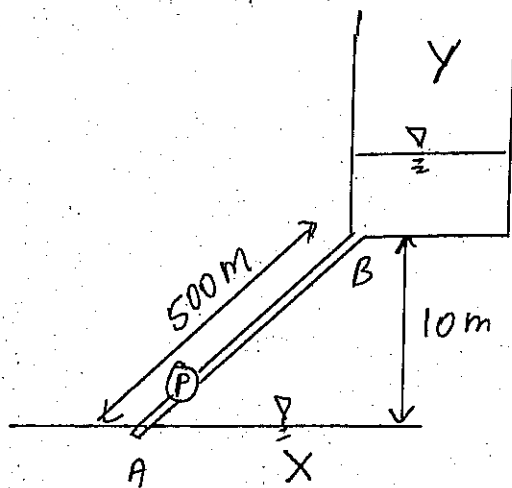

Figure 7
7) A centrifugal pump is used to pump water from Reservoir X to Tank Y, as shown in Figure 7. The pipeline AB has a length of 500 m, a diameter of 50 mm and a friction factor of 0.02. Tank Y has a uniform cross-sectional area of 5 m^2 and a maximum depth of 15 m. The bottom of Tank Y is 10 m above the water level of Reservoir X.